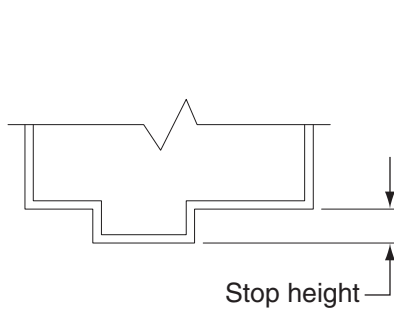
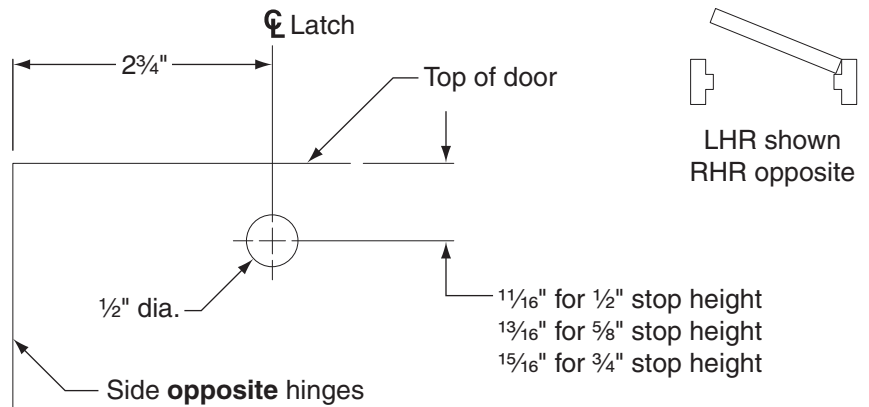

Figure 2-1
Figure 2-2
- Determine stop height (Figure 2-1), then mark center of hole on device side of door (Figure 2-2).